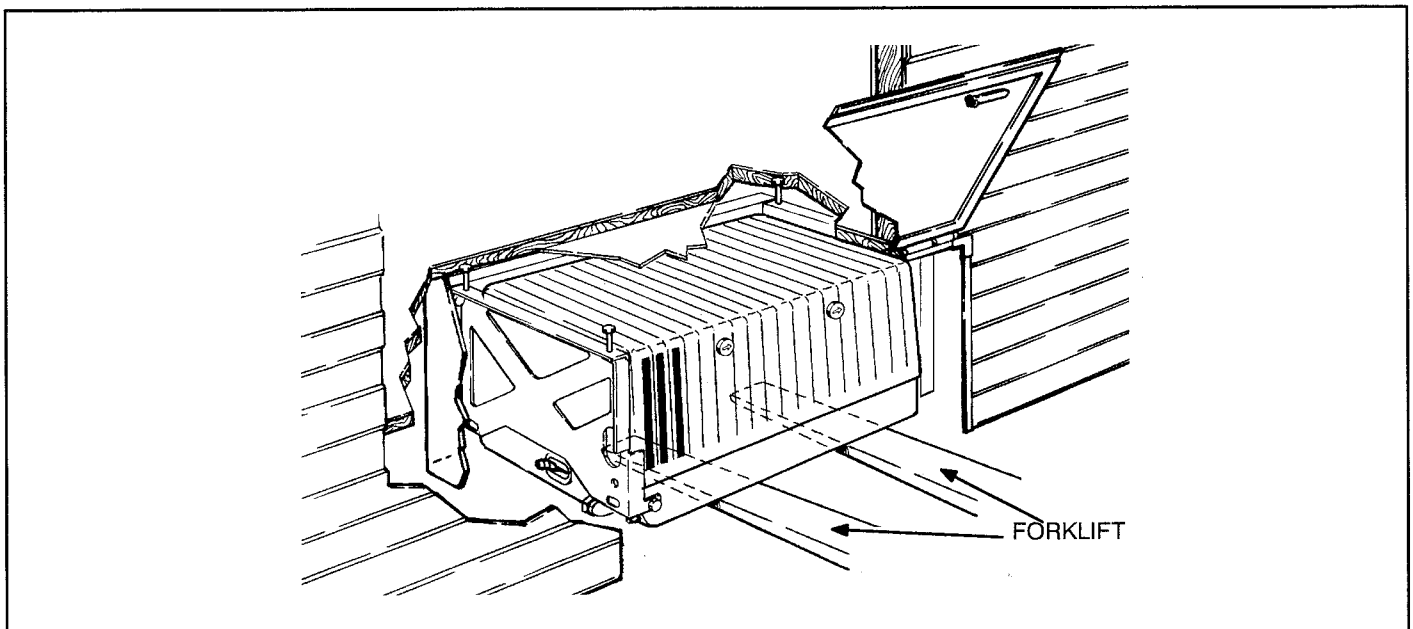

FIGURE 5-3. COMPLETE GENSET REMOVAL
1. Use a forklift to support the genset at the points shown in Figure 5-3.